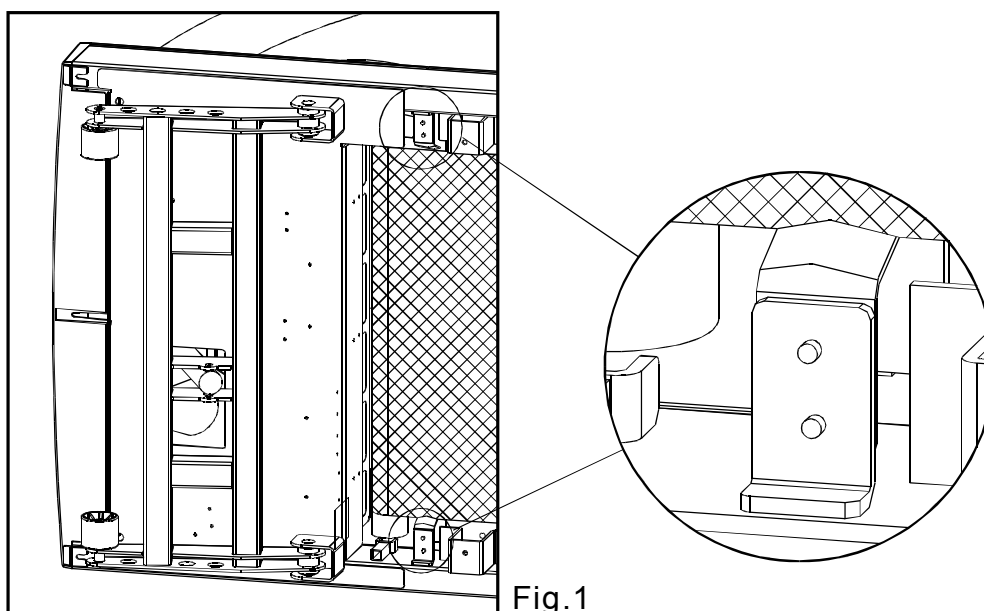

Fig.1
1. Tip the treadmill on its side. Inspect the underside of the belt and confirm that the belt is centered between the belt alignment guides. (see Fig. 1) Please place the treadmill onto solid flat ground for assembly.